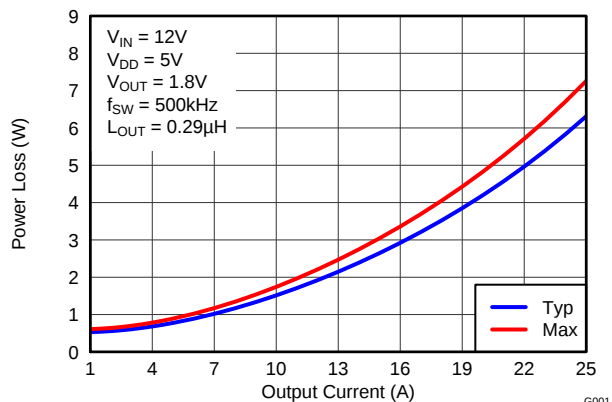
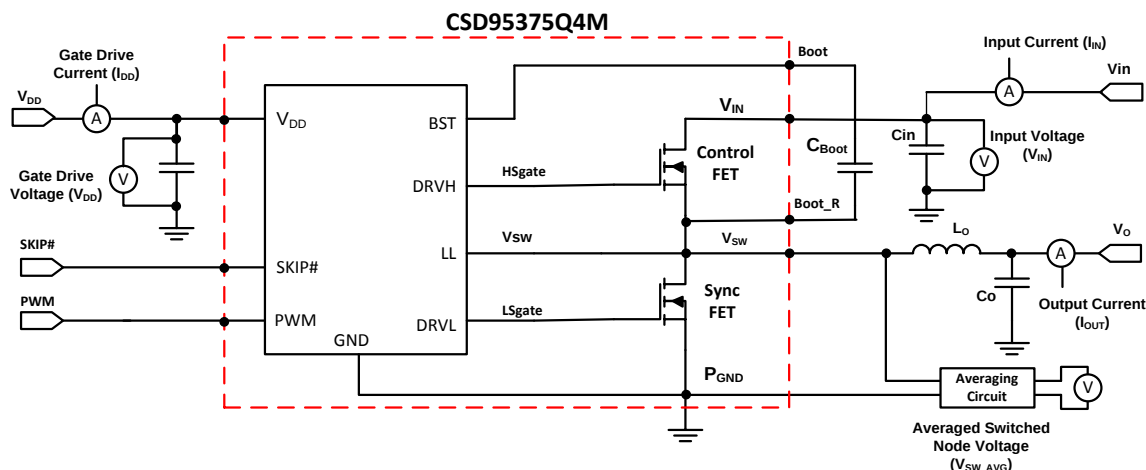

Figure 3. Power Loss vs Output Current
Figure 17. Power Loss Test Circuit
MOSFET centric parameters such as  $R_{DS(ON)}$  and  $Q_{gd}$  are primarily needed by engineers to estimate the loss generated by the devices. In an effort to simplify the design process for engineers, Texas Instruments has provided measured power loss performance curves. Figure 3 plots the power loss of the CSD95375Q4M as a function of load current. This curve is measured by configuring and running the CSD95375Q4M as it would be in the final application (see Figure 17). The measured power loss is the CSD95375Q4M device power loss which consists of both input conversion loss and gate drive loss. Equation 1 is used to generate the power loss curve.
The power loss curve in Figure 3 is measured at the maximum recommended junction temperature of  $T_j = 125^\circ\text{C}$  under isothermal test conditions.
- Typical Power Loss at 10A = 1.5W (Figure 3)